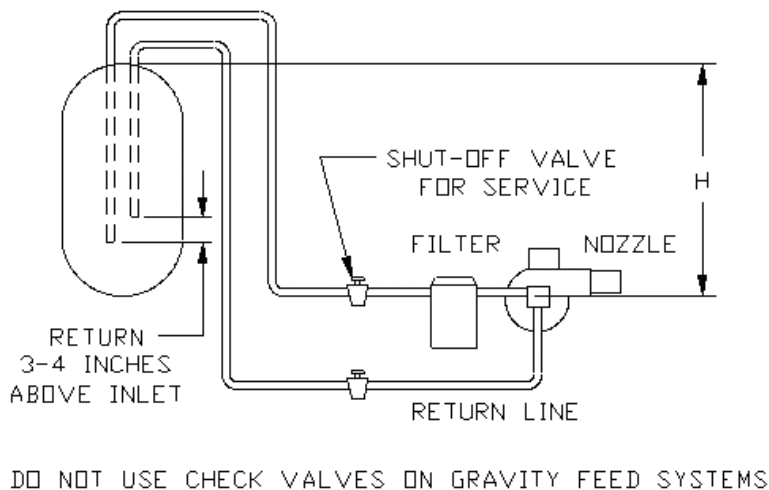

FIGURE 9.3: TWO-PIPE GRAVITY FEED SYSTEM
- c) TWO-PIPE GRAVITY SYSTEM (not recommended) - Used when a fuel oil storage tank is located above an oil burner fuel pump. See Figure 9.3. A vertical distance from top of the tank to center line of the pump (Dimension 'H') over 8 feet will result in a pump inlet pressure in excess of the 3-psi limit in NFPA-31. This type of system should be converted to a one-pipe gravity system, as doing so will result in lower inlet line flow and longer filter life.